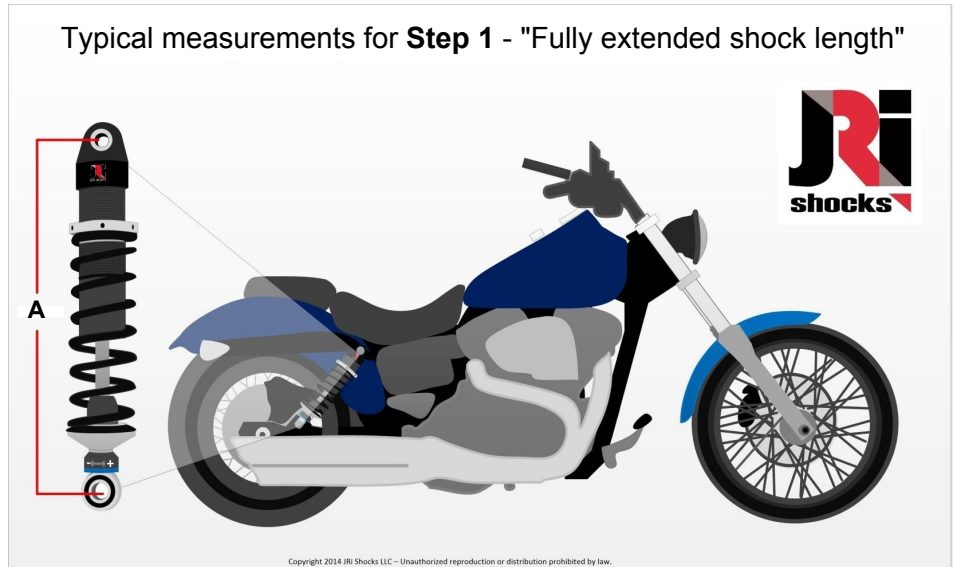

Figure 8 - First measurement for setting sag
- 1) With your shocks installed on the motorcycle, extend the rear wheel until it is off the ground or the rear suspension is topped out. Measure from the center of the top shock bolt to the center of the lower shock bolt (**See Figure 8**)